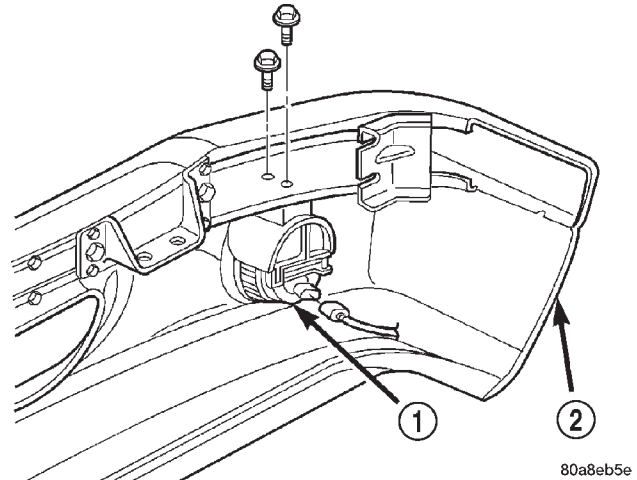

Fig. 2 Fog Lamp
- (1) Disengage fog lamp harness connector.
- (2) Remove the bolts attaching the fog lamp to the bumper (Fig. 2).
- (3) Separate fog lamp from bumper.